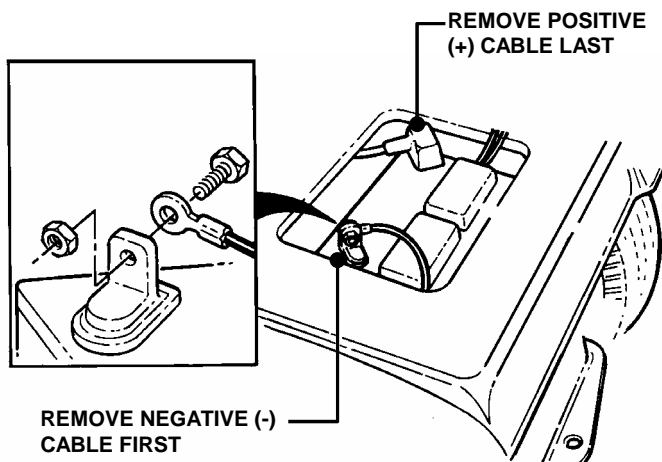

FIGURE 4.42
6. Remove battery. See Figure 4.42.
Cables must be connected to battery terminals in the proper position as shown in Figure 4.42. DO NOT attempt to charge battery while installed on tractor. DO NOT use "BOOST" chargers on the battery.